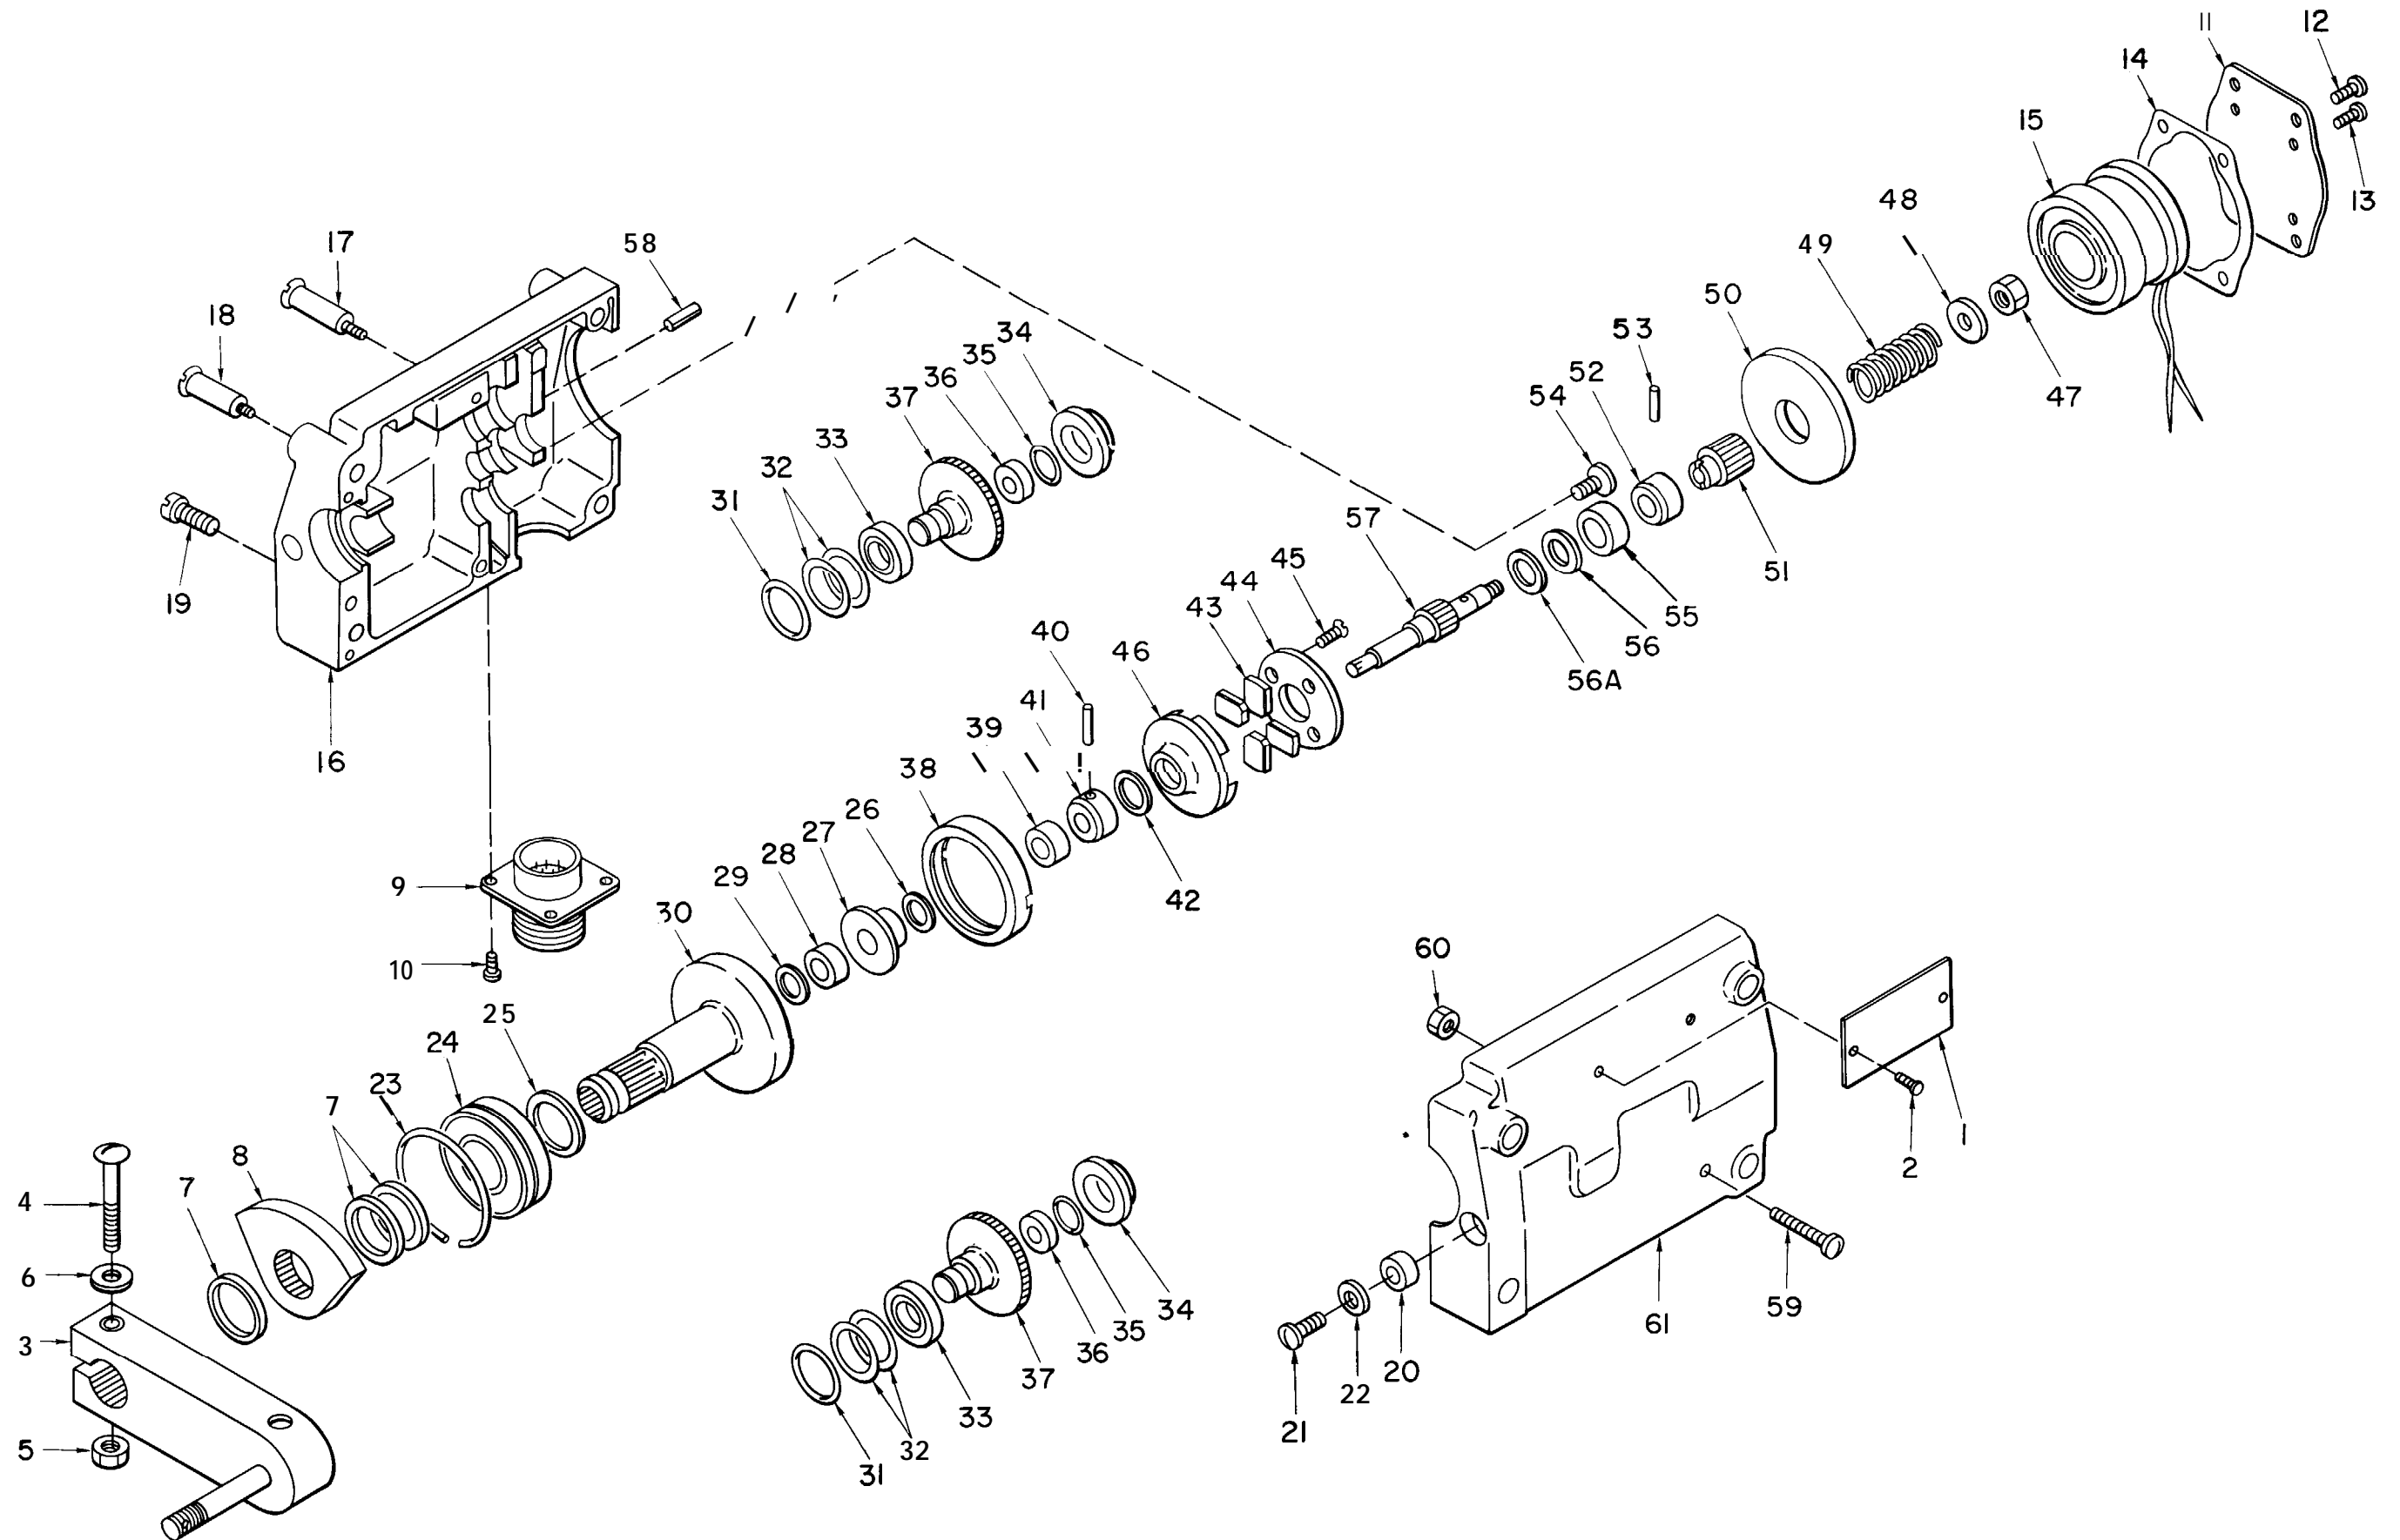
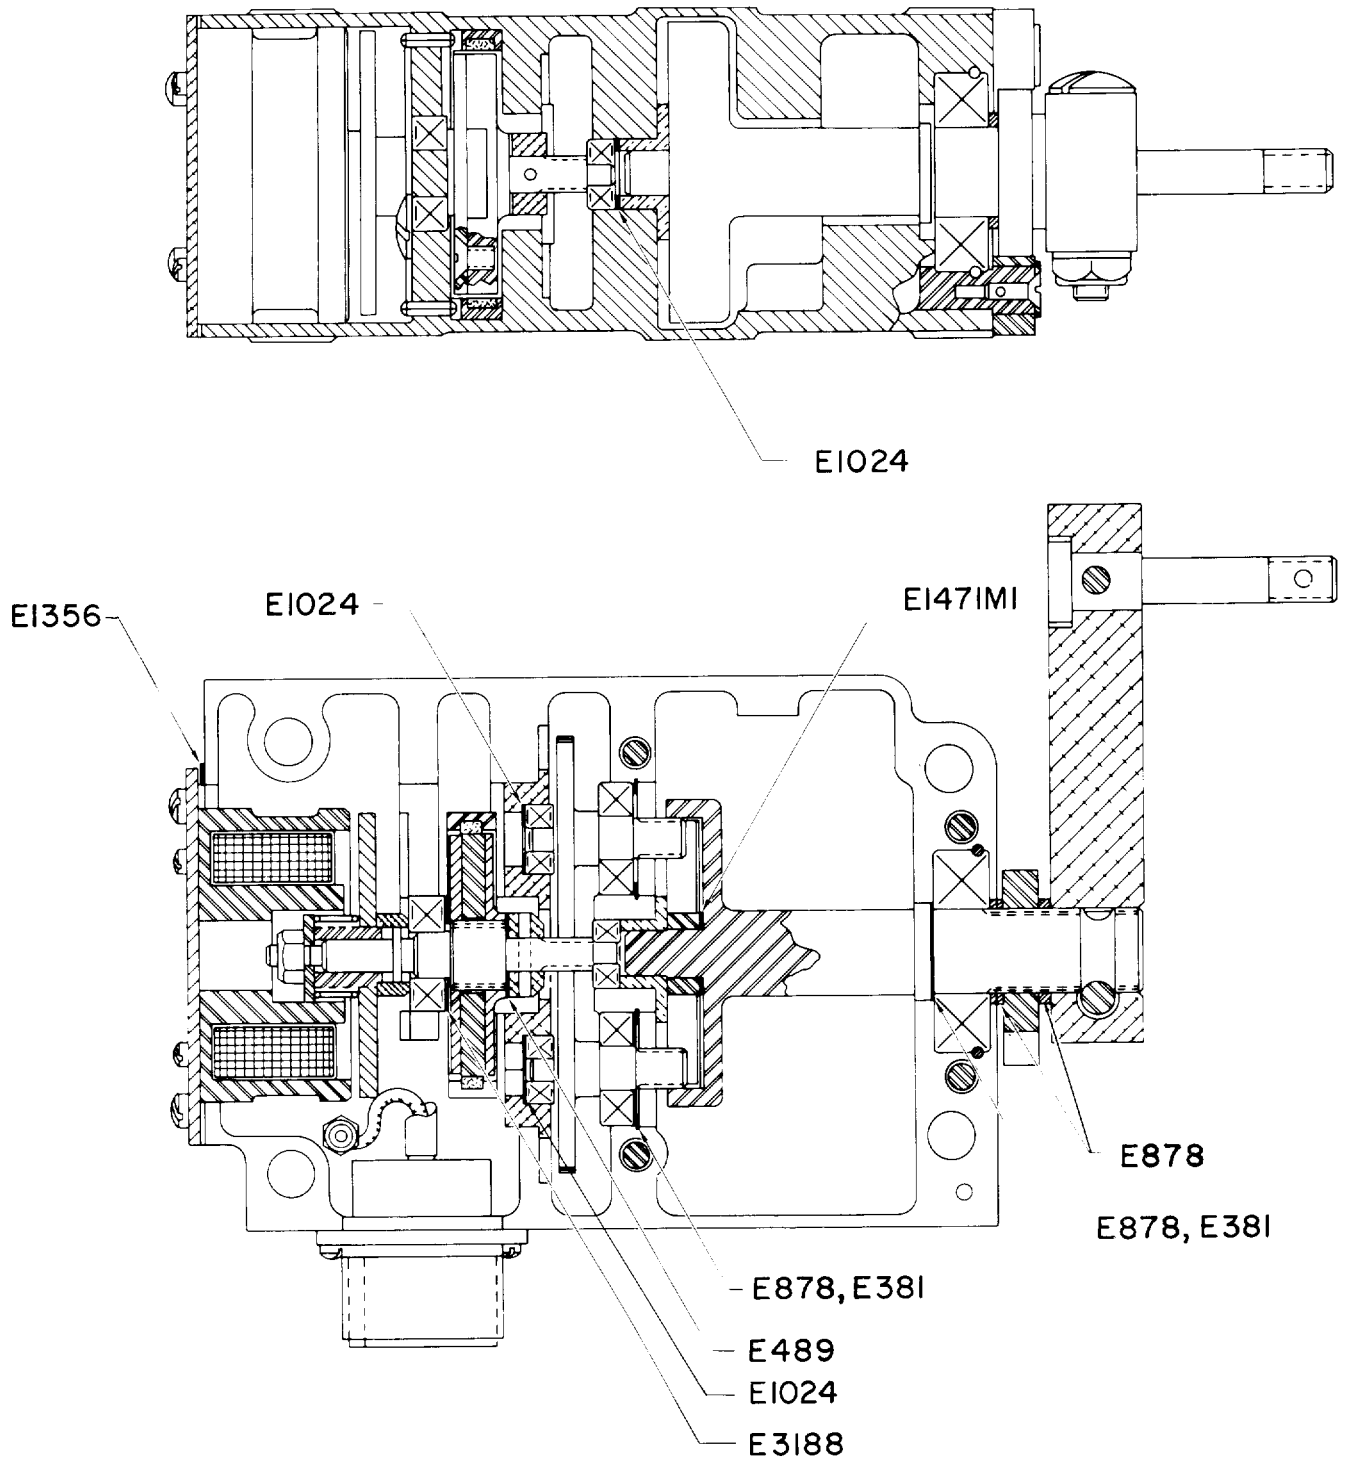
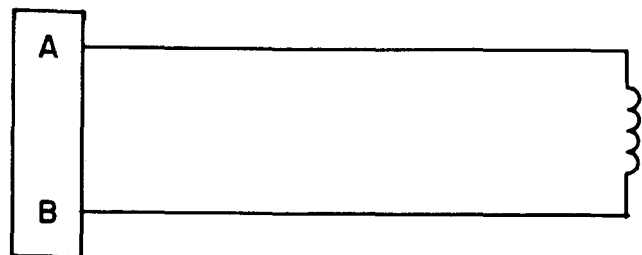

Figure 3-1. Magnetic Brake Assembly, Exploded View, Part No. R460M10, R460M15 and R460M15-3.
Figure 3-2. Shim Location Diagram, Part No. R460M10.
Figure 3-3. Wiring Diagram, General.
Do not use dry cleaning solvent to clean electrical connector (9, figure 3-1), coil and core assembly (15), and brake drum (38).
a. Clean electrical connector (9), coil and core assembly (15), and brake drum (38) with a non-wire brush. Blow loose foreign particles from parts using dry, filtered, low pressure, compressed air. Wipe parts with a dry, lint-free cloth.
b. Clean all other parts with dry cleaning solvent (item 1, table 2-2).
c. Check coil and core assembly (15, figure 3-1) for continuity of winding and condition of insulation. Check to see that resistance of brake coil is 67 ± 7 ohms at 77°F (25°C).
d. Inspect brake drum (38) for worn or damaged lining.
h. Measure the force required to compress spring (49) to its working length. Working length shall be 0.24 ±0.01 inch with a 16 ±1 ounce load applied.
a. Apply a light coating of grease (item 2, table 2-2) to all ball bearings, gears, and pinions.
b. Apply anti-seize compound (item 3, table 2-2) to threads of all aluminum screws and to all steel screws that anchor into aluminum parts, except screws (19 and 54, figure 3-1).
Reassemble the magnetic brake in the reverse order of disassembly. (See figures 3-1 through 3-3.)
Insure that gear housings (16 and 61, figure 3-1) have identical matched numbers before satrting assembly procedures.
a. Install retaining ring (23) on bearing (24).
b. Slide shims (25) and bearing (24) on splined end of output gear (30). Install washer
(29) and bushings (28 and 27) onto housing and output gear (30).
c. Position output gear assembly (items 23 through 25 and 27 through 30) in gear housing (61). Position gear housing (16) over gear housing (61) and secure with screws (19). Measure end play of output gear assembly. End play shall be between 0.002 and 0.007 inch. Add or remove shims (25), as required, to obtain end play limits.
d. Remove screws (19), separate housings, and place output gear assembly aside.
e. Install ball bearing (33), shims (32), and retaining ring (31) on larger shaft end of helical gear (37). Install ball bearing (36), shims (35), and bearing liner (34) on smaller shaft end of helical gear (37). Position the side gear assembly in gear housing (61), (See figure 3-2). If the shimming prevents seating of the side gear assembly, use other bore in gear housing (61, figure 3-1), Assemble and install the second side gear assembly in the same way. Alter shims (32 and 35) to eliminate end play. Helical gears (37) must be aligned with each other.
f. Repeat procedure in *e* above, using gear housing (16) in place of gear housing (61). At final assembly use the housing that requires the least number of shims (32 and 35) to eliminate end play.
i. Install shims (56) and ball bearing (55) on threaded end of gearshaft (57). Insert pin (53) through hole in gearshaft (57) and position collar (52) over pin. Seat bushing (51) inside collar (52) with notch on end of bushing seated firmly on pin (53), Slide clutch disk (50) on splines of bushing (51) and against collar (52). Install spring (49), washer (48), and nut (47).
t. Make electrical wiring connections between coil and core assembly (15) and connector (9), and position in housing. (See figure 3-3). Mate gear housing (16, figure 3-1) with gear housing (61) and secure with screws (17, 18, and 19). Stake screws (17 and 18) and secure screws (19) with adhesive (item 4, table 2-2).
u. Align coil and core assembly (15), and install mounting spacer (14) and brake adapter (11) on end of housing assembly. Install connector (9) on housing.
n. Reinstall crank arm assembly (3, figure 3-1).
5-8. *Disassembly.* Substitute figure 5-2 for figure 3-1. Shim (56A) shall be removed along with shim (56) as shown in paragraph 3-3h.
5-13. *Reassembly.* Same as for part no. R460M10 except substitute figure 5-2 for figure 3-1, and figure 5-3 for figure 3-2. If optional stud, part no. 5690906, is to be installed in place of screw (59, figure 5-2) and nut (60), use a riveting fixture and a staking machine to rivet the stud in place. Install shim (56A) along with shim (56) as shown in paragraph 3-7i. Add the following leak check at the end of reassembly: Connect air seal test adapter AT2652-4 to air seal test panel AT2652. Remove one screw (12) and install air seal test adapter AT2652-4 in the vacated hole. Using air seal test panel AT2652, pressure test the magnetic brake for air leaks. The brake shall